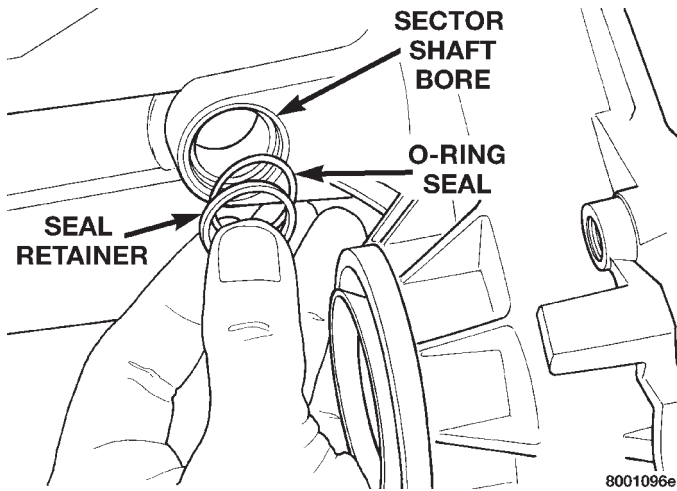

Fig. 27 Sector Bushing And O-Ring Removal
- (6) Remove shift sector bushing and O-ring (Fig. 27).